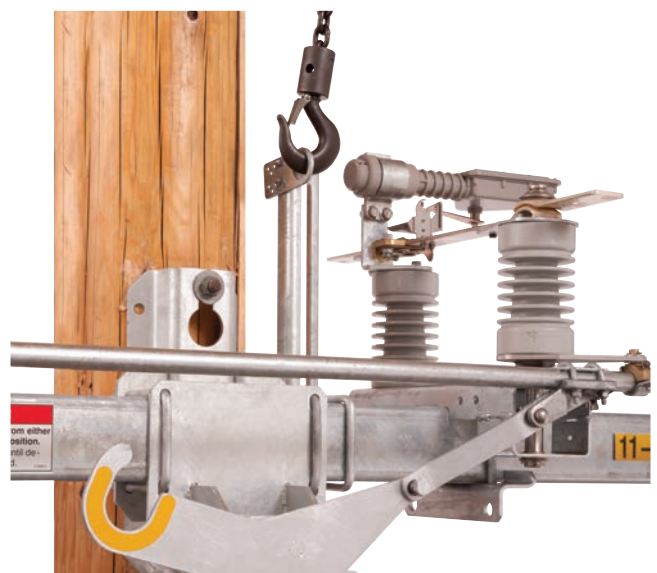

Figure 8. Retractable single point lifting bracket.
**Single-point lifting bracket** provides a simple means to lift the switch into position. The lifting bracket stays on the switch without interfering with built-in dielectric clearances. See Figure 8.